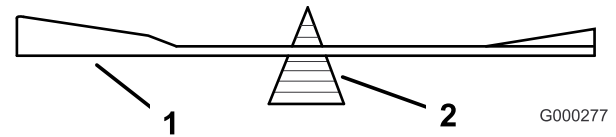

Figure 67
2. Check the balance of the blade by putting it on a blade balancer (Figure 67). If the blade stays in a horizontal position, the blade is balanced and can be used. If the blade is not balanced, file some metal off the end of the sail area only. Repeat this procedure until the blade is balanced.